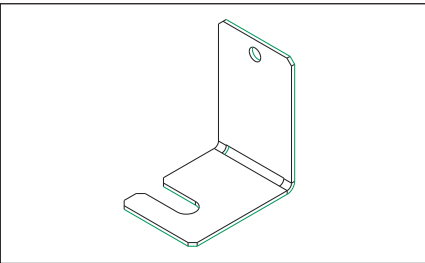
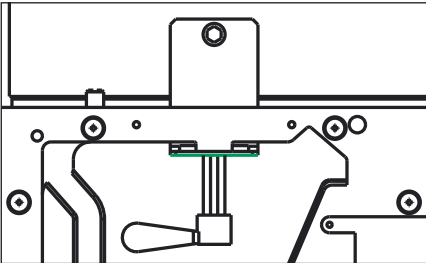

Figure 6: Hand-Bend Jig Plate
Figure 7: Secure Jig Plate
6. Hand-bend an installation jig plate (Daktronics part number 0M-3921813) to a 90° angle. Refer to **Figure 6**. Slide the slot in the jig plate around the pin on the interconnect latch and temporarily secure the plate in place with a self-drilling screw. Refer to **Figure 7**.